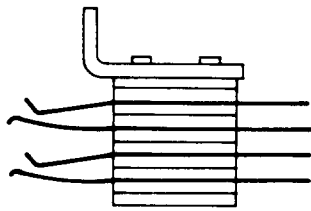

Fig. 11—467A Jack
2.11 467A: This multicontact jack (Fig. 11) consists of a metal bracket on which there are mounted two pairs of contact springs insulated from each other. The terminals are arranged for mechanically wrapped connections. This jack is used with the 240A plug on universal switch shelves in Step-by-Step Dial Telephone Systems. The 467A jack mounts on a 229-type or 230A terminal strip.